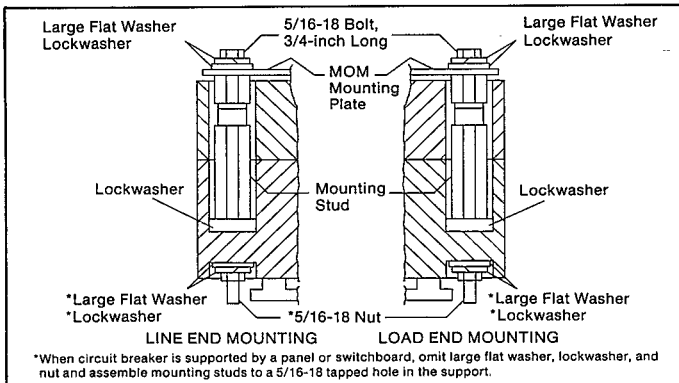

Fig. 4. Mounting hardware installation. Use with breaker Types TKM, THKM, TK4V, THK4V, TKL4V.
5. Install motor-operating mechanism using bolts and washers supplied. See Figs. 4 and 5.